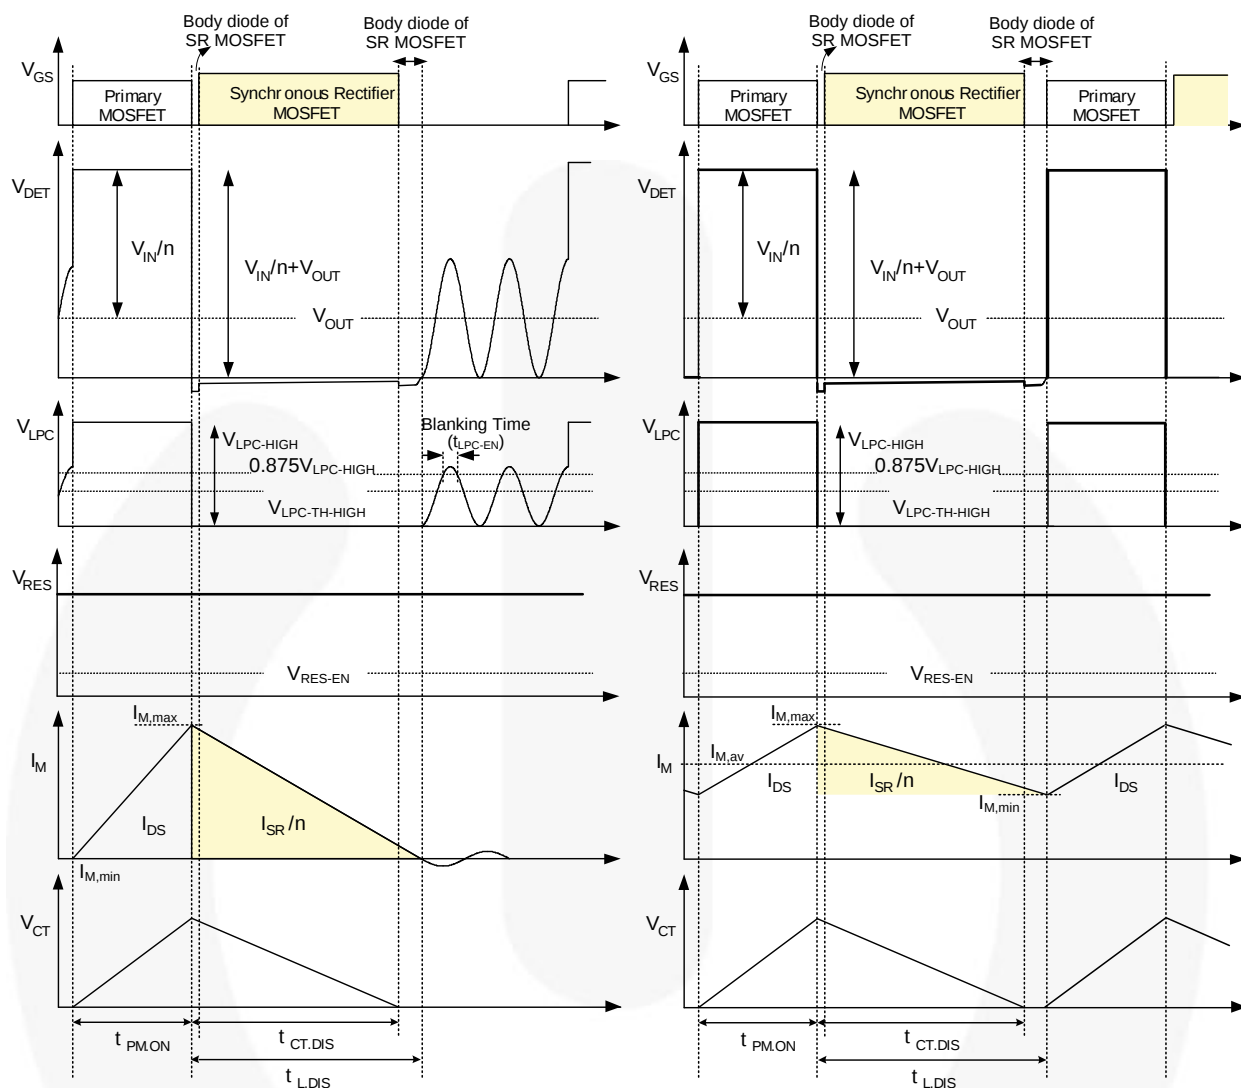
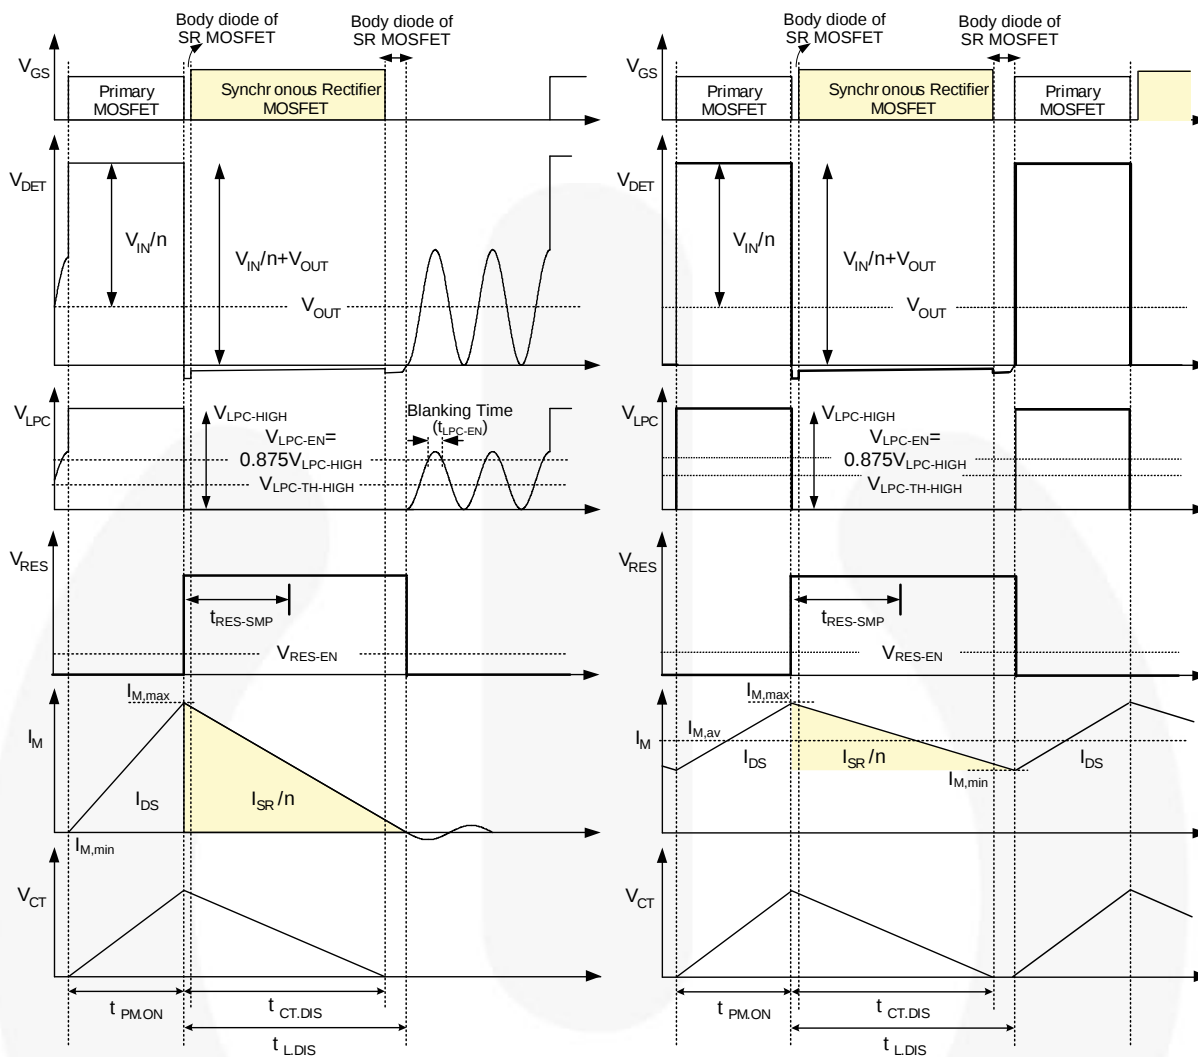
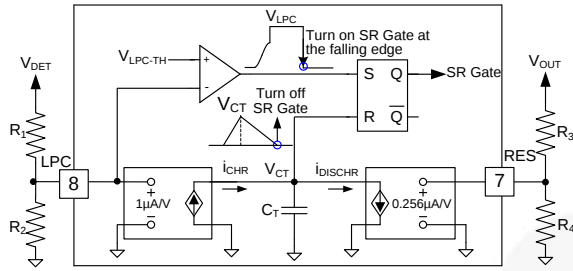

Figure 25. Waveforms of Linear-Predict Timing Control in CCM and DCM / QR Flyback for Low-Side Application
Figure 26. Waveforms of Linear-Predict Timing Control in CCM and DCM / QR Flyback for High-Side Application
Figure 27. Simplified Linear-Predict Block
The SR MOSFET turn-off timing is determined by linear-predict timing control and the operation principle is based on the volt-second balance theorem, which states: the inductor average voltage is zero during a switching period in steady state, so the charge voltage and charge time product is equal to the discharge voltage and discharge time product. In flyback converters, the charge voltage on the magnetizing inductor is input voltage (V_{IN}), while the discharge voltage is reflected output voltage (nV_{OUT}), as the typical waveforms show in Figure 25. The following equation can be drawn:
FAN6224 uses the LPC and RES pins with two sets of voltage dividers to sense DET voltage (V_{DET}) and output voltage (V_{OUT}), respectively; so V_{IN}/n , $t_{PM,ON}$, and V_{OUT} can be obtained. As a result, $t_{L,DIS}$, which is the on-time of SR MOSFET, can be predicted by Equation 1. As shown in Figure 25, the SR MOSFET is turned on when the SR MOSFET body diode starts conducting and DET voltage drops to zero. The SR MOSFET is turned off by linear-predict timing control.
The linear-predict timing-control circuit generates a replica (V_{CT}) of the magnetizing current of the flyback transformer using an internal timing capacitor (C_T), as shown in Figure 27. Using the internal capacitor voltage, the inductor discharge time ($t_{L,DIS}$) can be detected indirectly, as shown in Figure 25. When C_T is discharged to zero, the SR controller turns off the SR MOSFET.
Referring to Figure 25, when LPC voltage is higher than V_{LPC-EN} over a period of blanking time (t_{LPC-EN}) and lower than $V_{LPC-TH-HIGH}$ (1.22 V), then SR MOSFET can be triggered. Therefore, V_{LPC-EN} must be larger than $V_{LPC-TH-HIGH}$ or the SR MOSFET cannot be turned on. As a result, when designing the voltage divider of the LPC, considering the tolerance, R_1 and R_2 should satisfy the equation:
For high-side applications, as shown in Figure 2, an extra auxiliary winding (N_3) is used to supply voltage for controller. To detect output voltage, the RES pin is connected to the auxiliary winding through a set of voltage dividers. As Figure 26 shows, V_{RES} is proportional to V_{OUT} when SR MOSFET or its body diode conducts. Therefore, information of V_{OUT} is sampled at $t_{RES-SMP}$ after the primary-side MOSFET turns off. As a result, Equation (4) can be rewritten as:
The typical waveforms of CCM operation in steady state are shown as right side of Figure 25 and Figure 26. When the primary-side MOSFET is turned on, the energy is stored in L_m . During the on-time of the primary-side MOSFET ($t_{PM,ON}$), the magnetizing current (I_M) increases linearly from $I_{M,min}$ to $I_{M,max}$. Meanwhile, internal timing capacitor (C_T) is charged by current source ($i_{CHRG} - i_{DISCHRG}$) proportional to V_{IN} , so V_{CT} also increases linearly.
In DCM / QR operation, when primary-side MOSFET is turned off, the energy stored in L_m is fully released to the output at the turn-off timing of primary-side MOSFET. Therefore, the DET voltage continues resonating until the primary-side MOSFET is turned on, as depicted in Figure 25. While DET voltage is resonating, DET voltage and LPC voltage drop to zero by resonance, which can trigger the turn-on of the SR MOSFET. To prevent fault triggering of the SR MOSFET in DCM operation, a blanking time is introduced to LPC voltage. The SR MOSFET is not turned on even when LPC voltage drops below $V_{LPC-HIGH}$ unless LPC voltage stays above $0.875 V_{LPC-HIGH}$ longer than the blanking time (t_{LPC-EN}). The turn-on timing of the SR MOSFET is inhibited by gate inhibit time ($t_{INHIBIT}$), once the SR MOSFET turns off, to prevent fault triggering.